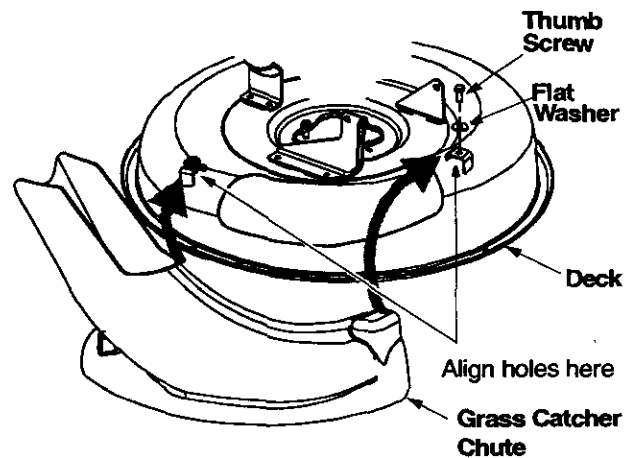

Figure 6
3. Align the two holes on the other end of the chute with the two corresponding holes on the deck. See Figure 6.
4. Insert thumb screw and flat washer, removed earlier, through the left hole on the grass catcher chute and corresponding hole on the deck. Thread the screw a few turns to secure, but do not tighten. See Figure 6.